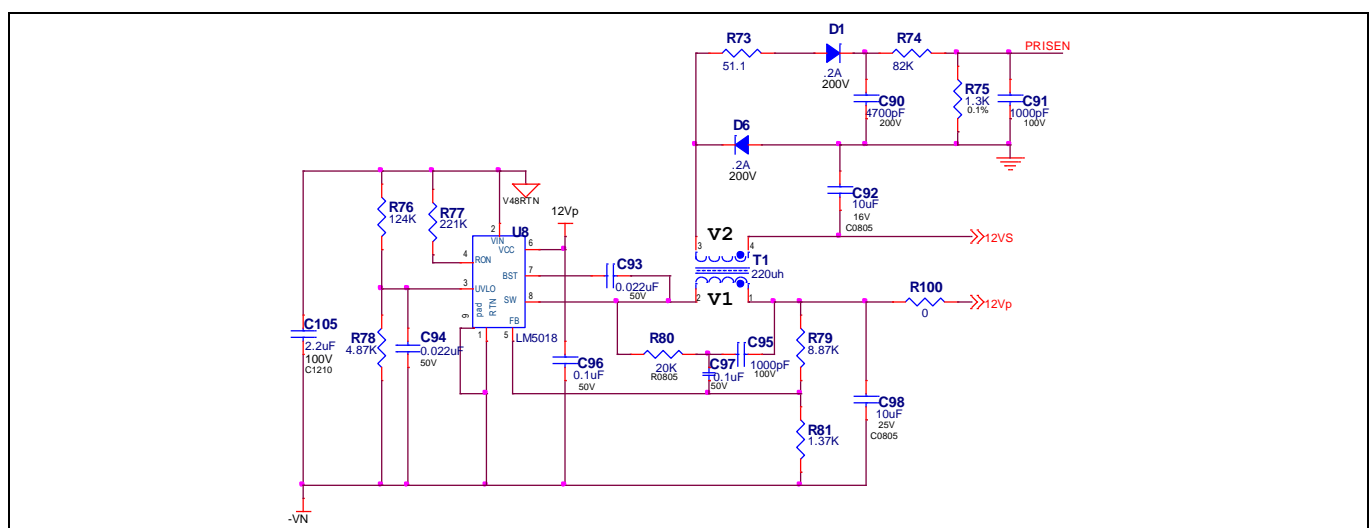

Figure 16 Auxiliary power supply and input voltage sense
The input voltage is negative with reference to the XDPP1100 ground, and it can't be directly sensed using a resistor divider. To avoid adding a voltage sense (VS) amplifier to the circuit, the design uses the secondary winding of the auxiliary power supply to sense input voltage. The schematic is shown in Figure 16. The auxiliary transformer T1 has a 1:1 turns ratio.